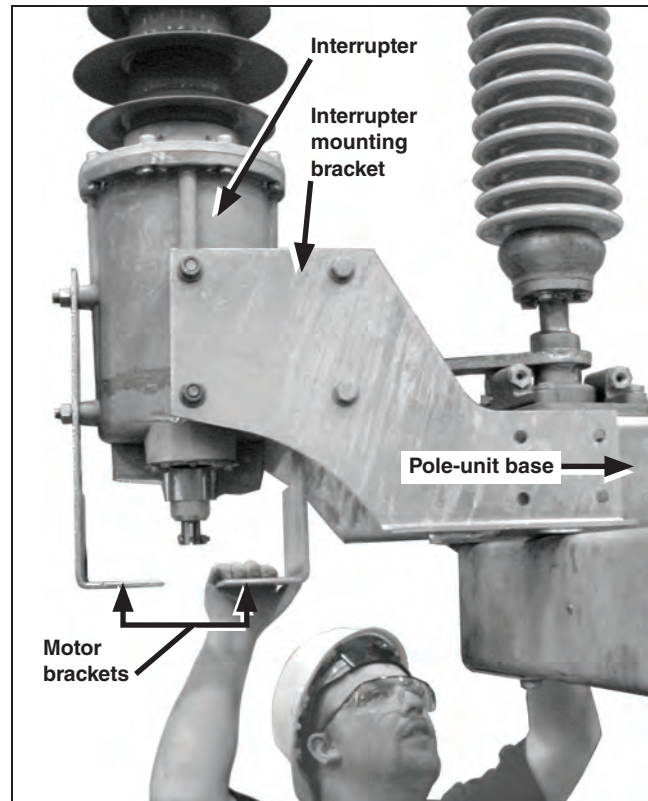

Figure 21. Attach interrupter mounting bracket to pole-unit base. Tighten hardware.
STEP 5. Position the interrupter mounting brackets so the holes in the brackets align with the holes in the disconnect pole-unit base. See Figure 21. Attach the interrupter mounting brackets to the disconnect pole-unit base using eight $\frac{5}{8}$ -11 \times 2 $\frac{1}{4}$ -inch hex-head cap screws, flat washers, and self-locking hex nuts furnished.